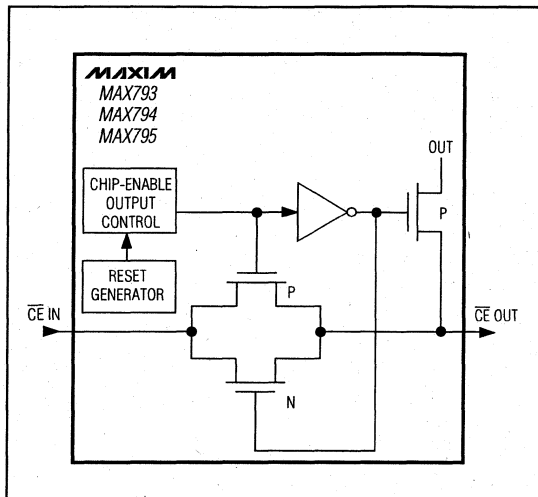

Figure 7. Chip-Enable Transmission Gate
Internal gating of chip-enable (CE) signals prevents erroneous data from corrupting CMOS RAM in the event of an undervoltage condition. The MAX793/MAX794/MAX795 use a series transmission gate from CE IN to CE OUT (Figure 7). During normal operation (reset not asserted), the CE transmission gate is enabled and passes all CE transitions. When reset is asserted, this path becomes disabled, preventing erroneous data from corrupting the CMOS RAM. The short CE propagation delay from CE IN to CE OUT enables these μP supervisors to be used with most μPs. If CE IN is low when reset asserts, CE OUT remains low for typically 10μs to permit completion of the current write cycle.